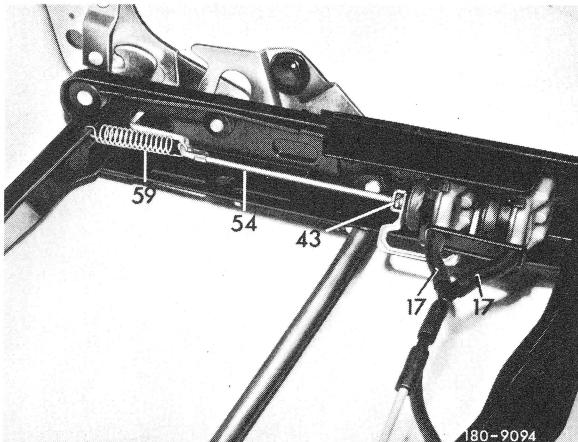

Fig. 4
- 5 Pull connection (17) from vacuum element (Fig. 4).
- 6 Disconnect restoring spring (59) (Fig. 4).
- 8 Pull out lock washer (43) (Fig. 4) and remove actuating rod.
9 Insert actuating rod up to stop and secure with lock washer (43) (Fig. 4).
12 Attach restoring spring (59) (Fig. 4).
13 Slip connections (17) on vacuum element (Fig. 4).